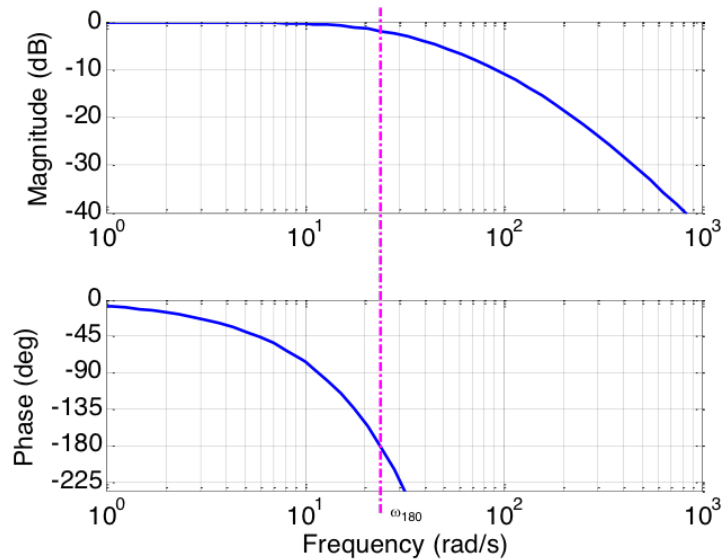

Figure 2: Bode plot of  $G(s)$  with time delay included. Compare to Figure 1.
- (a) The new Bode plot can be created using the `set(gs, 'iodelay', 0.1)` command in Matlab (see Lecture 33) and is shown in Figure 2. The time delay causes the phase plot to cross  $-180^\circ$  at  $\omega_{180} = 23$  rad/s, as shown by the dash-dotted line. The magnitude Bode plot is approximately  $-3$  dB at this frequency, so the time delay causes the gain margin to drop to  $GM = 3$  dB.